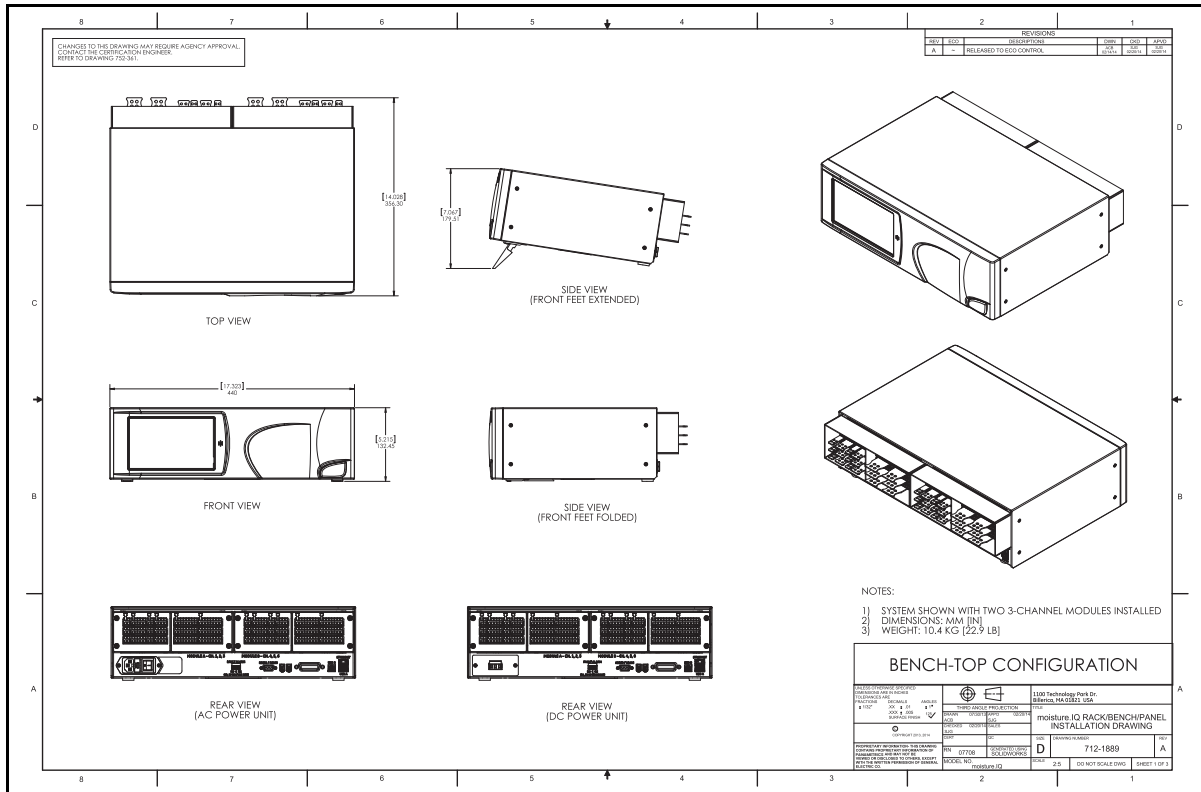

Figure 7: Bench-Top Configuration (Dwg. 712-1889_revA, SH 1 of 3)
- The installation should comply with **configuration drawings** 712-1889 rack (see *Figure 8(B)* on page 5)/bench (see *Figure 7(B)* on page 4)/panel (see *Figure 9(B)* on page 5) version.